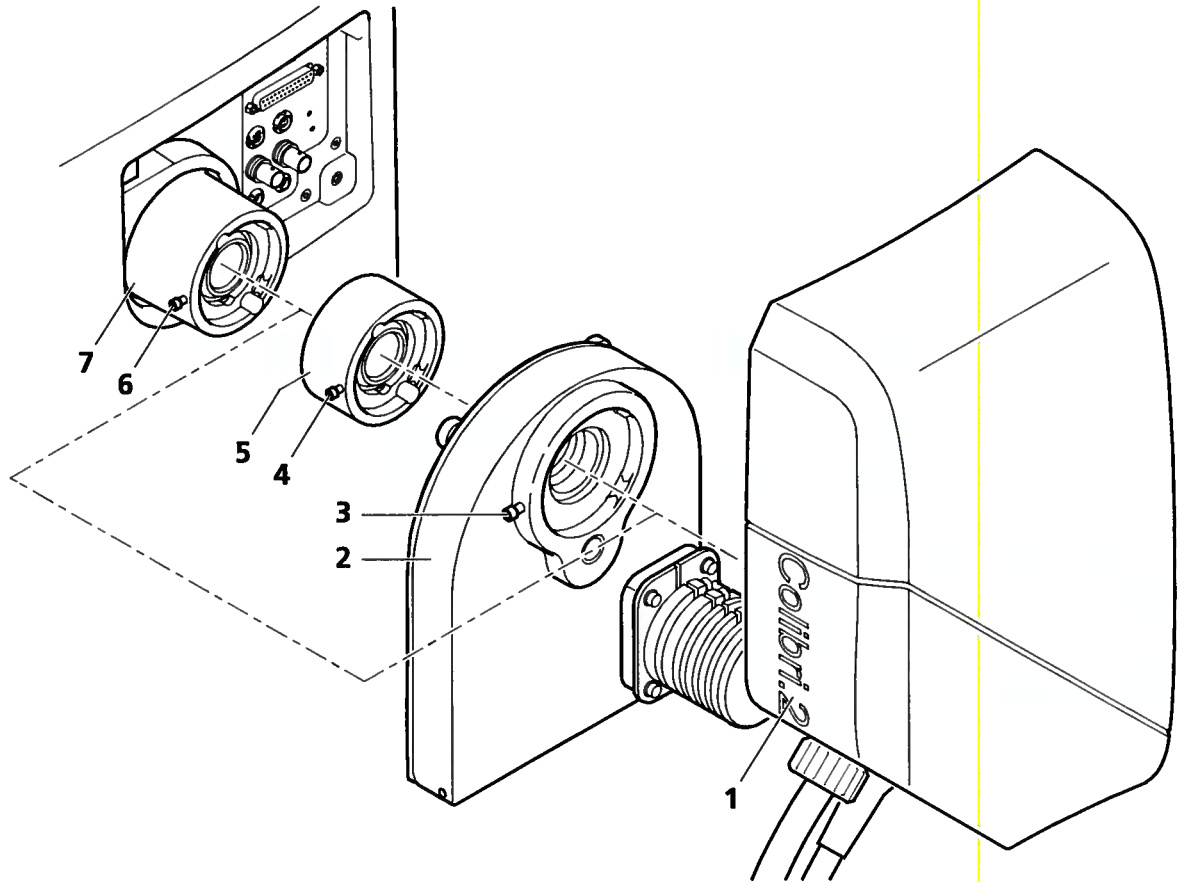

Fig. 3-9 Mounting the external filter wheel and the Colibri.2 light source
- Attach the intermediate adapter (Fig. 3-9/5) with the dovetail mount to the connecting socket (Fig. 3-9/7) and secure with the clamp screw (Fig. 3-9/6, Allen key 3 mm).
- Attach the external filter wheel (Fig. 3-9/2) with the dovetail mount to the intermediate adapter (Fig. 3-9/5) and secure with the clamp screw (Fig. 3-9/4, Allen key 3 mm).
- Finally, set the illuminator module (Fig. 3-9/1) with the dovetail mount on the external filter wheel and secure with the clamp screw (Fig. 3-9/3, Allen key 3 mm). Care must be taken to ensure that the illuminator module points upwards, i.e. the control cable points downwards.